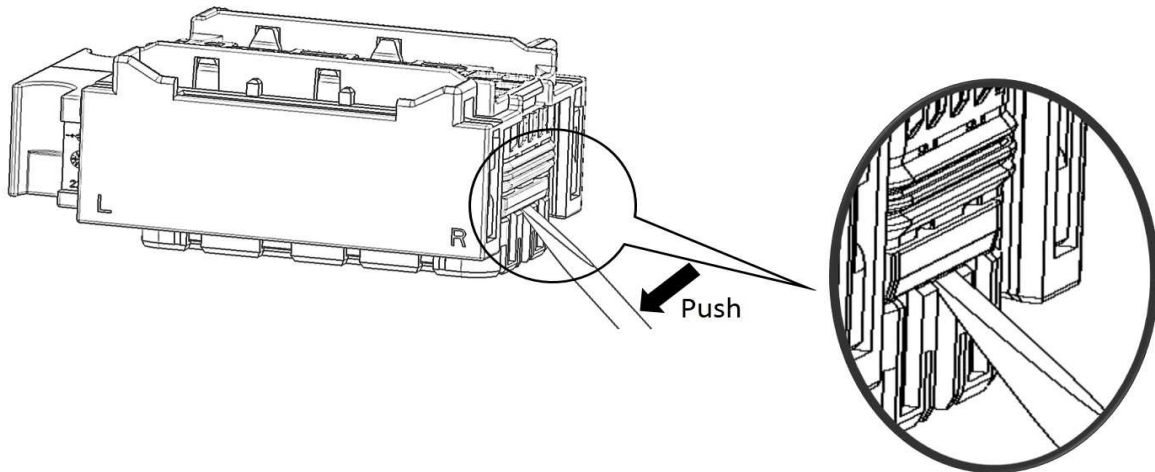

Figure 28
Remove the secondary locks from the Housings (1) in both 91 and 105 position by inserting a screwdriver of 1.8x0.3mm in the slot provided and levering it as shown in figure 28.